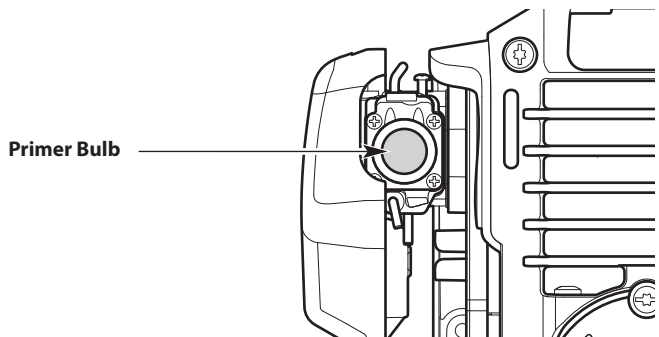

Fig. 14
1. Slowly press and release the primer bulb **10 times** (Fig. 14).